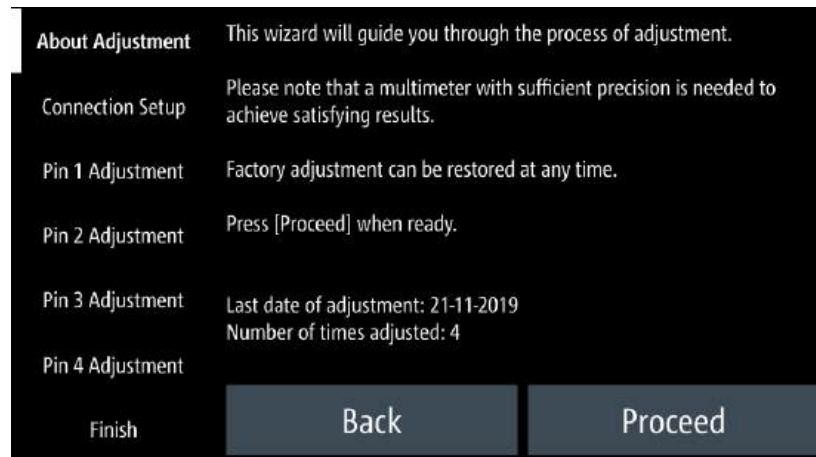

Figure 5-36: Analog In adjustment wizard
- Follow the on-screen instructions displayed in Figure 5-36. Supply the required voltage to the analog input and key in the measured value from DMM using the on-screen keyboard. See Figure 5-37.